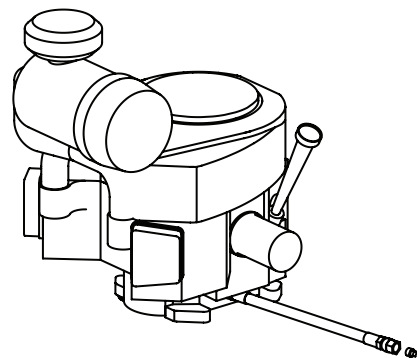

Figure 39
2. Locate the oil drain hose on the engine (Figure 39).
5. While holding the free end of the oil drain hose over the oil collection container, unscrew the square-head hose plug from the end of the hose (Figure 39 on page 24). Drain the engine oil into the collection container.